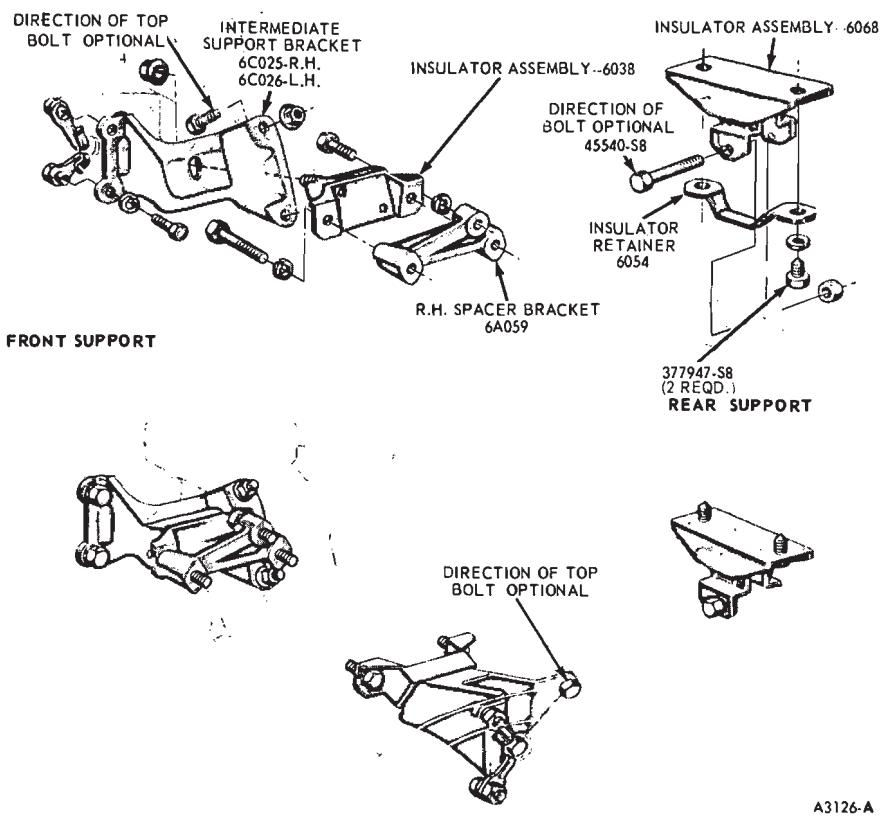

FIG. 4—Engine Supports
- Loosen the nuts attaching the insulator assemblies to the intermediate support brackets (Fig. 4).